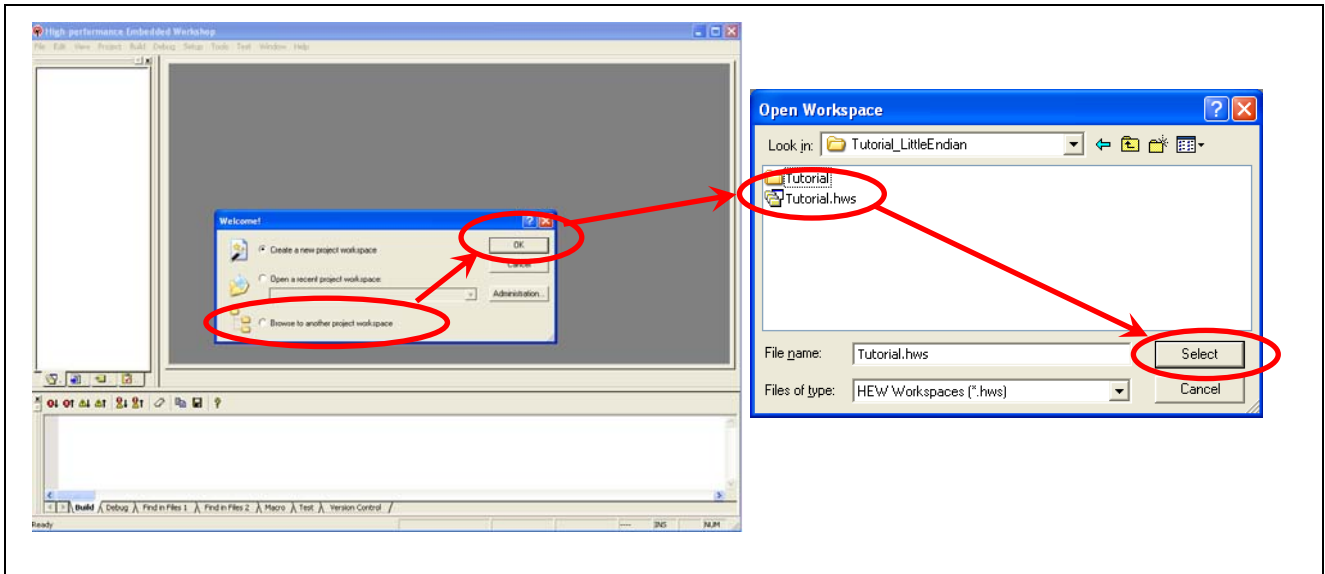

Figure 4.3 Selecting a Workspace in the [Welcome!] Dialog Box
- (2) The [Welcome!] dialog box will appear on the High-performance Embedded Workshop screen as shown in Figure 4.3. Select the [Browse to another project workspace] radio button and click on the [OK] button.
- (3) The [Open Workspace] dialog box shown in Figure 4.3 will appear. Specify "Tutorial.hws" and click on the [Select] button.